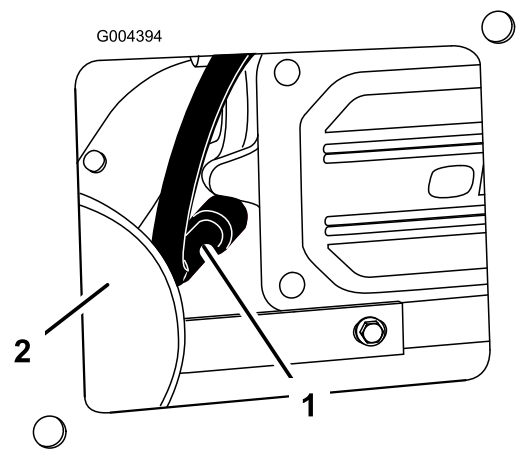

Figure 38
3. Pull the wire off of the spark plug (Figure 38). Clean around the spark plug to prevent dirt from falling into the engine and potentially causing damage.
3. Push the wire onto the spark plug (Figure 38).